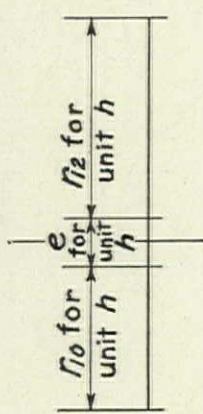
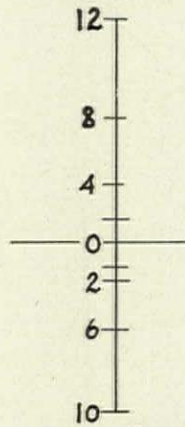

Fig. 7
Fig. 8
- (1) Along a vertical line, lay off the r_{12} of that spiral from the table in terms of the unit that you have chosen, (10")-12H in figure 7
- (2) Below this, lay off the diameter of the eye, HI^{***} , in the same terms.
- (3) Below this, lay off r_2 , r_6 , and r_{10} , in the same terms, each measured downward from I .
- (4) Likewise, lay off r_4 and r_8 , each measured upward from H (r_{12} brings us back to the initial point 12). (Fig. 8).